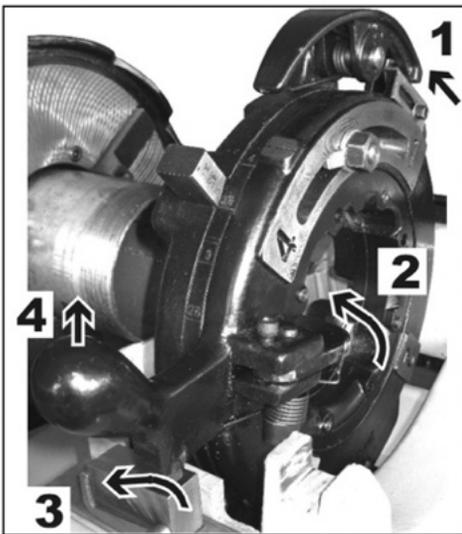

Fig 4
- 4. Release foot IN. (Figure 4)
- 5. Sine Bar should be IN (unlatched). (Figures 4)
- 6. With die head in DOWN position, push UP on cam locking plate handle (Figure 4, Step 4) until release foot latches in die head body.